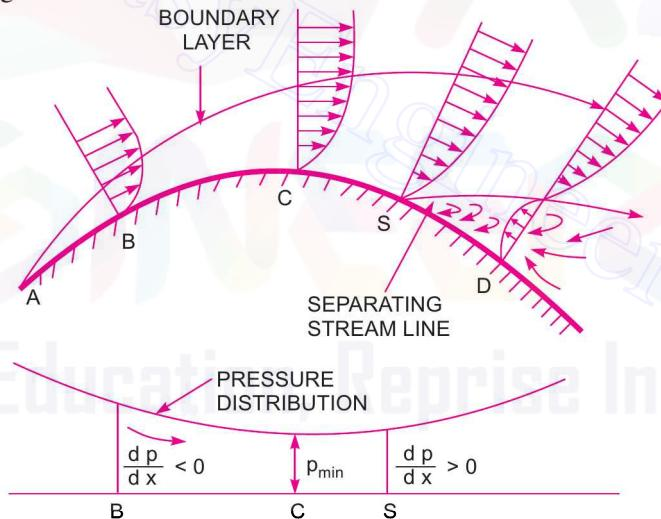

Fig. 13.7 Effect of pressure gradient on boundary layer separation.
curved surface  $ABCSD$  as shown in Fig. 13.7. In the region  $ABC$  of the curved surface, the area of flow decreases and hence velocity increases. This means that flow gets accelerated in this region. Due to the increase of the velocity, the pressure decreases in the direction of the flow and hence pressure gradient  $\frac{dp}{dx}$  is negative in this region. As long as  $\frac{dp}{dx} < 0$ , the entire boundary layer moves forward as shown in Fig. 13.7.
**13.7.3 Methods of Preventing the Separation of Boundary Layer.** When the boundary layer separates from the surface as shown in Fig. 13.7 at point *S*, a certain portion adjacent to the surface has a back flow and eddies are continuously formed in this region and hence continuous loss of energy takes place. Thus separation of boundary layer is undesirable and attempts should be made to avoid separation by various methods. The following are the methods for preventing the separation of boundary layer :